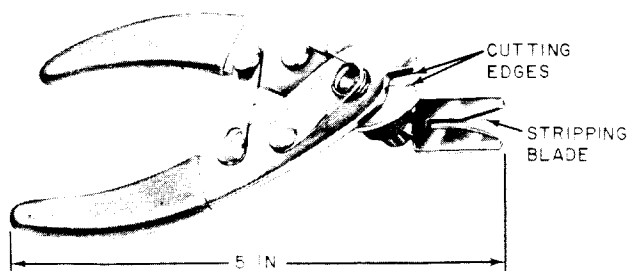

Fig. 1—B Wire Stripper
2.01 The B wire stripper (Fig. 1) consists of nickel plated cutting pliers and stripping blade. The cutting edges and stripping blade are separated by a spacer to produce a stripped conductor length of 3/4 inch. The handles are covered with yellow plastic cushion grips.